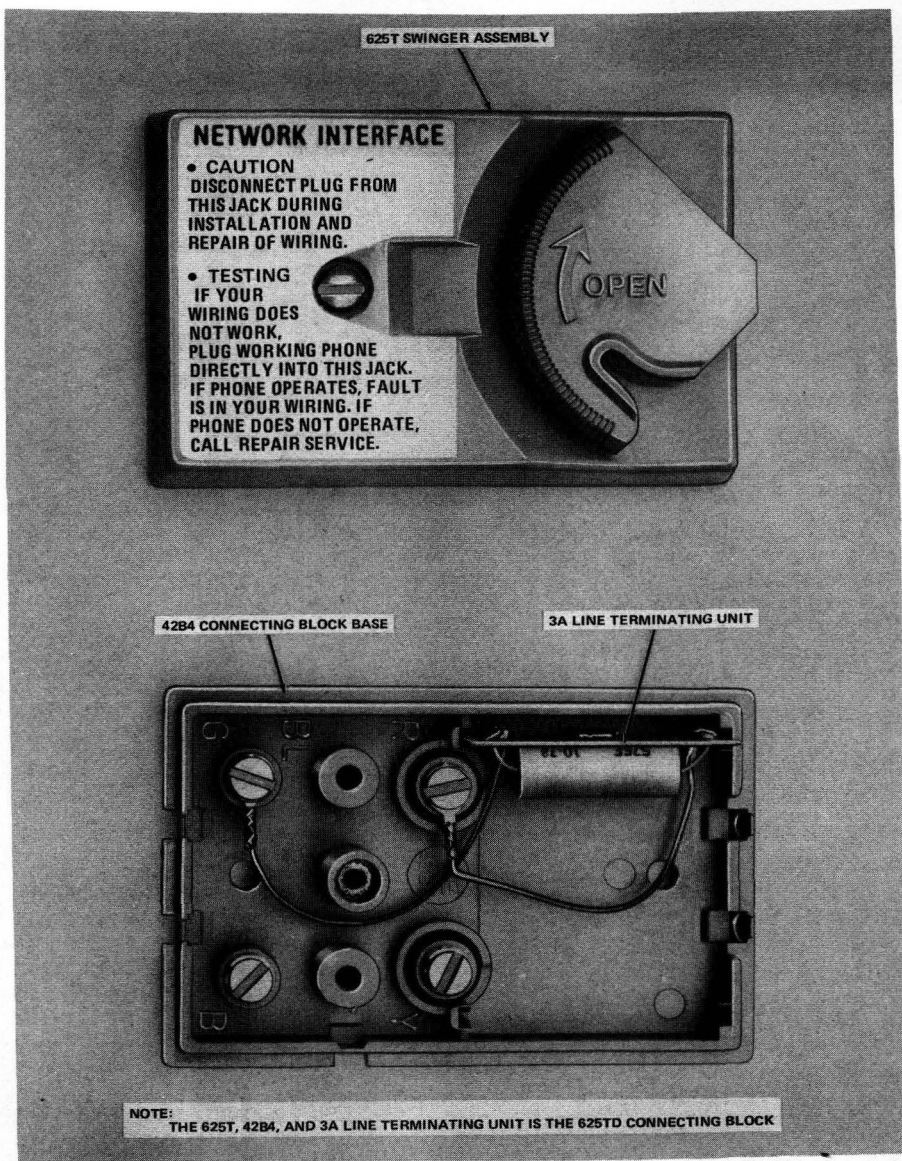

Fig. 8—625TD Connecting Block
2.15 ♦The 625TD connecting block (Fig. 8) consists of a 625T swinger assembly, 42B4 connecting block base, and a line terminating unit. The 625TD connecting block is the standard single-line network interface between customer premise wiring and Bell System Telephone Company network facilities. The 625TD connecting block is available in ivory (–50) only. Refer to Section 461-400-150 for additional information.